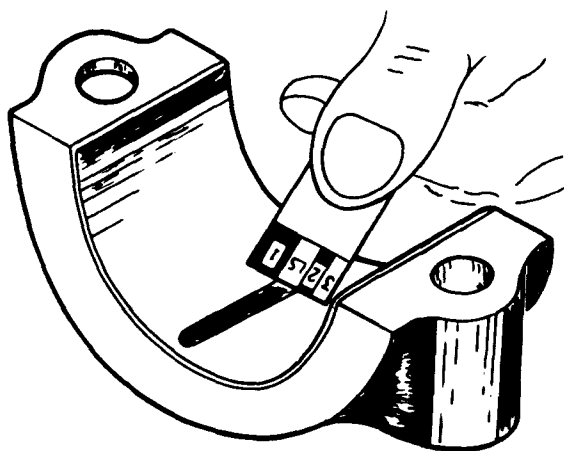

FIG. 15 Measuring Bearing Clearance with Envelope Scale
4. Remove the bearing cap and measure the width of the plastic gauging material with the envelope scale (Fig. 15). If clearance is excessive, undersize bearing inserts are required. If one end of the plastic gauging material is wider than the other, a tapered journal is indicated. Width difference between the two ends is approximate journal taper.